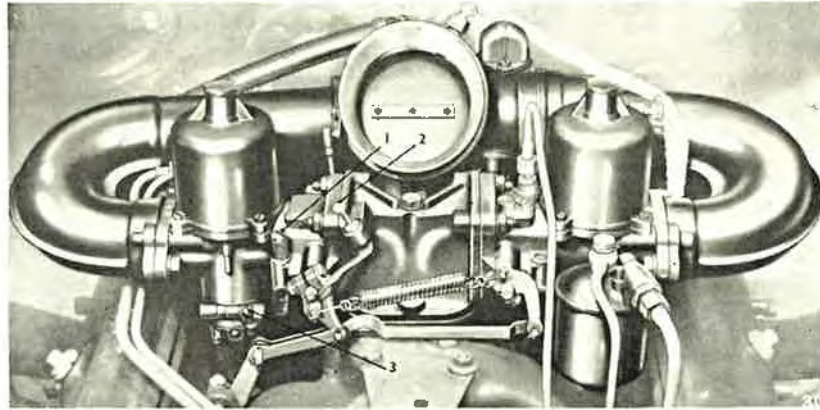

Fig. K3 (S) The carburetters
Screw down each idle bleed adjusting screw, shown in Figure K3 (S) of this Supplement, to the full extent of its travel, then unscrew  $1\frac{1}{2}$  turns.
The mixture strength is regulated by the jet adjusting screw, shown in Figure K3 (S) of this Supplement, which should be manipulated until the jet is level with the top of the bore in which it is located. Then screw the adjusting screw two complete turns down.